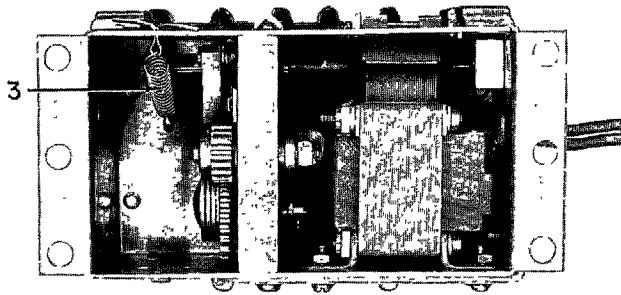

Fig. 3. IC5182-A120 multiple-pole relay
To change the operating spring (3), Fig. 3, remove the contactor from the enclosing case and unhook the spring ends with the aid of needle-nose pliers. Hook new spring in same position.